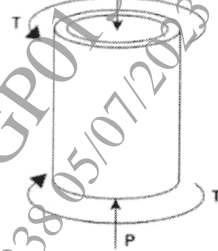

Figure 2
- Q7) a)** A segment of a generator shaft is subjected to a torque T and an axial force P , as shown in the figure 2. The hollow shaft having outer diameter $d_2=280$ mm and inner diameter $d_1=230$ mm and delivers 1800 kW at 4.0Hz. If the compressive force, $P=525$ kN. What are the maximum tensile, compressive and shear stresses in the shaft? [9]